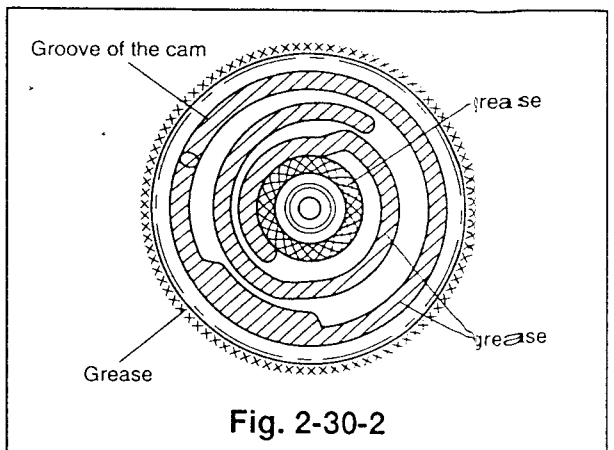
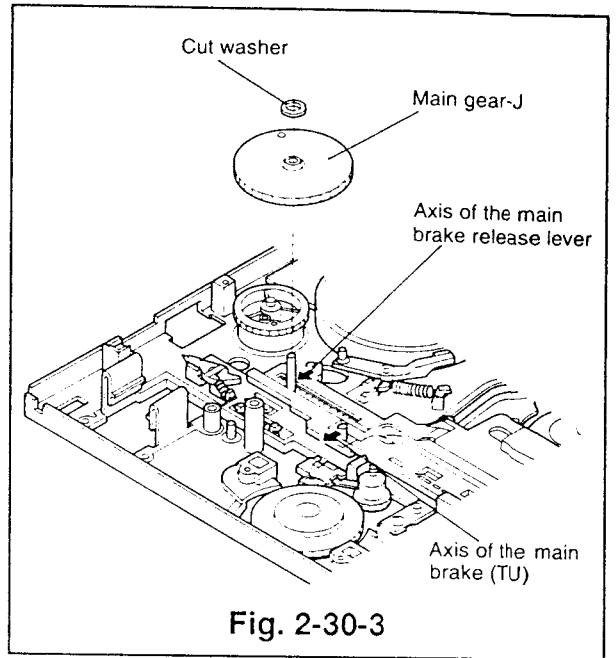
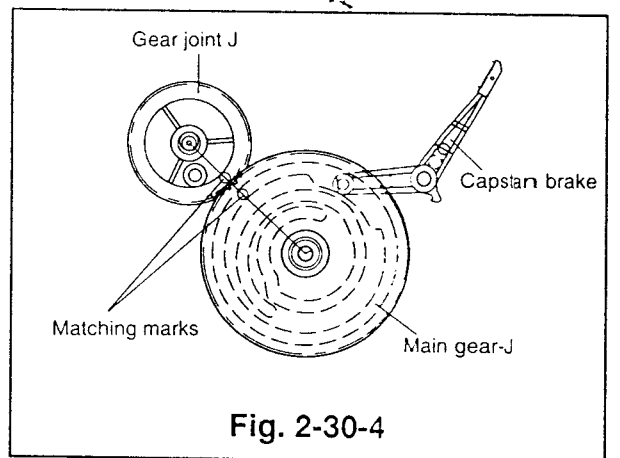

Fig. 2-30-2
Fig. 2-30-3
Fig. 2-30-4
- ① Apply grease(G)[859D055O50] to the outside cogs, the groove of the cam and to the inside small cogs of the new main gear J. (Refer to Fig. 2-30-2.)
- ② Make sure that the cam plate B is set to the right side, viewed from the bottom side of the deck. (Eject mode)
- ③ Push the axis of the main brak (TU) in the direction shown by the arrow until the main brake release lever moves freely. Turn the deck the right side up and shift the axis of the main brake release lever in the direction shown by the arrow. Then fix the main gear J to the shaft, with the axis of the main brake release lever held in place. Secure the main plate J with the cut washer. (Refer to Fig. 2-30-3) (Insert the pin of the capstan brake in the outside groove of the main gear J and align the matching marks of gear joint J and the main gear J.)(Refer to Fig. 2-30-4)
- ④ Install the loading motor assembly (which holds the motor holder) and the reel belt. (Refer to Para. 2-28 for the installation method.)
- ② Fix the gear joint J to the shaft so that the matching mark of the gear joint J aligns with that of the main gear as shown in Fig. 2-30-4.